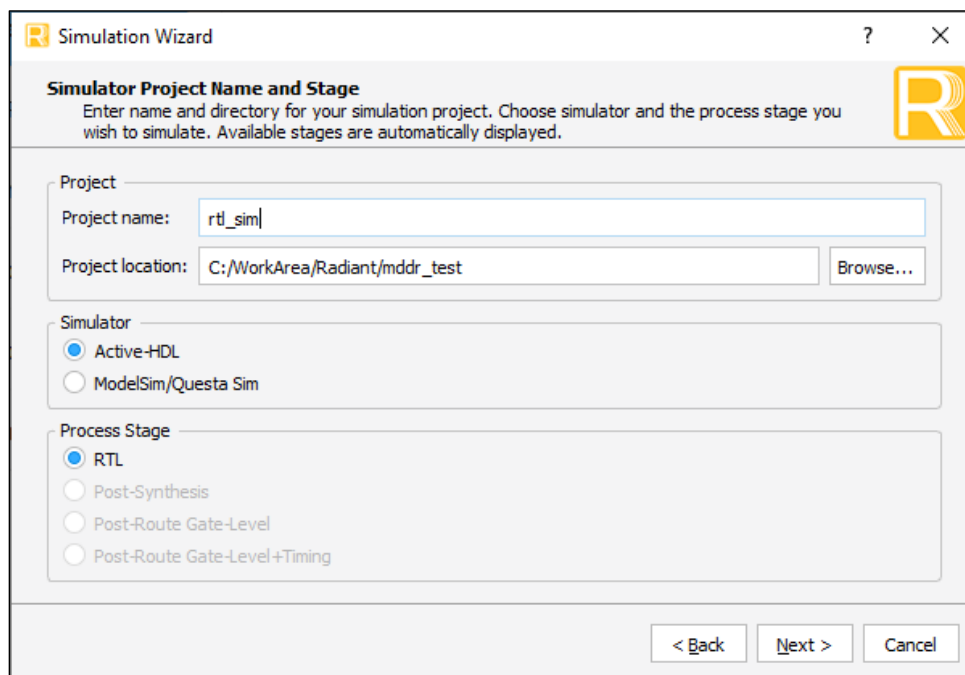
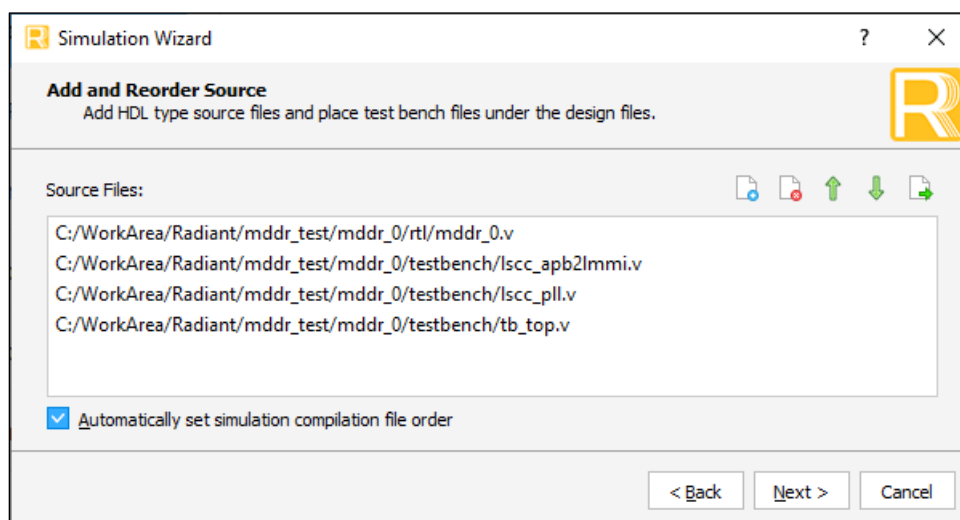

Figure 4.1. Simulation Wizard
Figure 4.2. Adding and Reordering Source
1. Click the  button located on the Toolbar at the top of your screen to initiate the Simulation Wizard, as shown in Figure 4.1.
2. Click **Next** to navigate to the **Add and Reorder Source** screen, shown in Figure 4.2.
Running the Simulation	Updated Figure 4.1 and Figure 4.2.